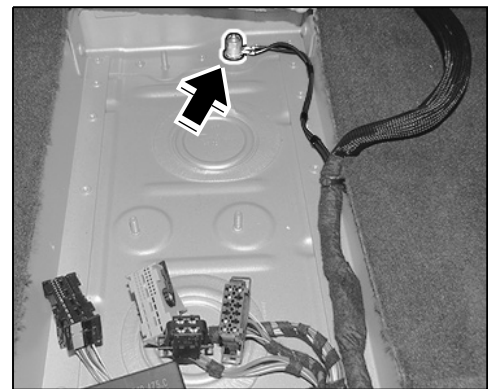

Figure 16
- 2.5 Connect cable ring eyelet (BN ground strap) to ground point MB 6 \Rightarrow *Figure 16 -arrow-*.